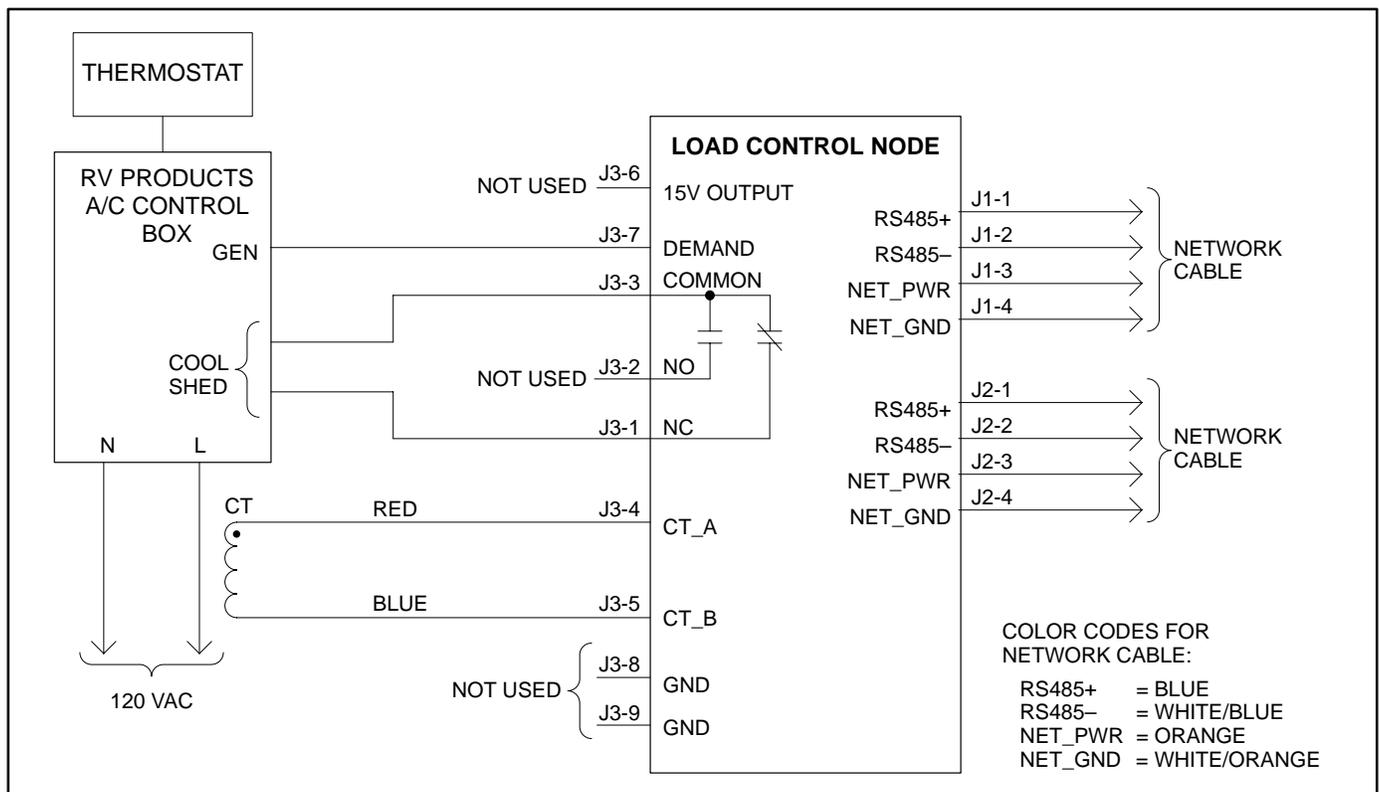

FIGURE 6-5. COLEMAN AIR CONDITIONER WIRING DIAGRAM
5. Use the wiring diagram to route wires from the control box to the node, and from the node to the next node on the network. Figure 6-5 shows the wiring diagrams for the Load Control Node used with the Coleman air conditioner. Refer to Appendix A for the required wire type used for node connections.